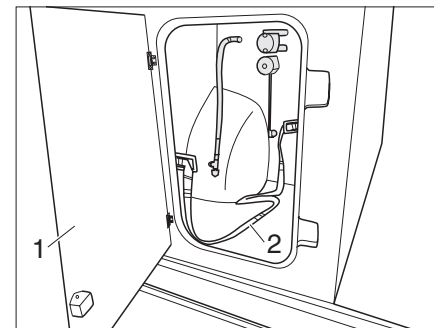

Fig. 76 Access flap for the gas bottle
- ▶ Open the access flap (Fig. 76,1) to the gas bottle compartment.
- ▶ Fix gas bottle in place with the fixing belts (Fig. 76,2).
- ▶ Close (Fig. 76,1) access flap.